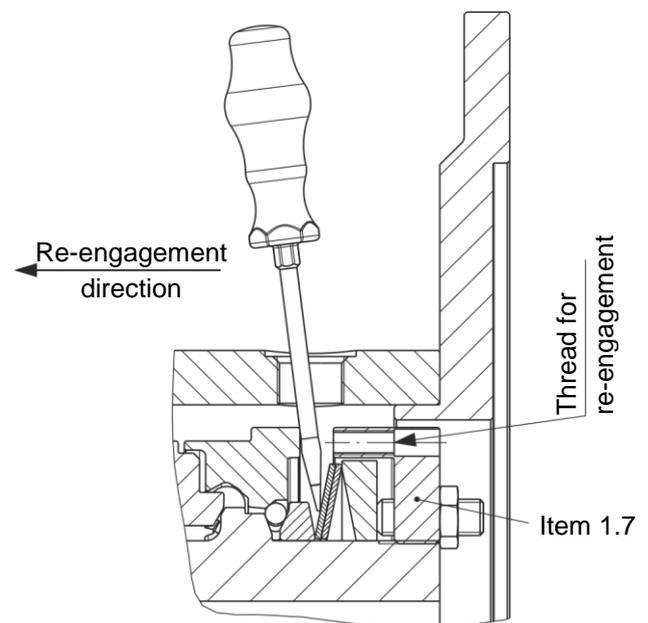

Fig. 5
Re-engagement (Fig. 5)
There are two bores (180° offset to one another) for manual clutch re-engagement. They are locked with screw plugs (13). In order to re-engage the clutch, at least one of the two screw plugs (13), including its O-ring (14), must be loosened and removed. EAS®.Compact® overload clutch re-engagement is carried out by applying axial pressure to the thrust washer (1.3) in the direction of the output (flange Y) using a suitable lever tool (Fig. 5). It may be necessary to turn slightly between the pressure flange (1.2) and the thrust washer (1.3).
For high torque ranges (Types 490.7_... and 490.8_...), engagement using a lever tool is no longer easily possible. Alternatively, re-engagement can take place by evenly screwing three screws M8 (not included in the standard scope of delivery) into the adjusting nut (Item 1.7 / Fig. 5). On this variant, it may be necessary to turn slightly between the pressure flange (1.2) and the thrust washer (1.3).